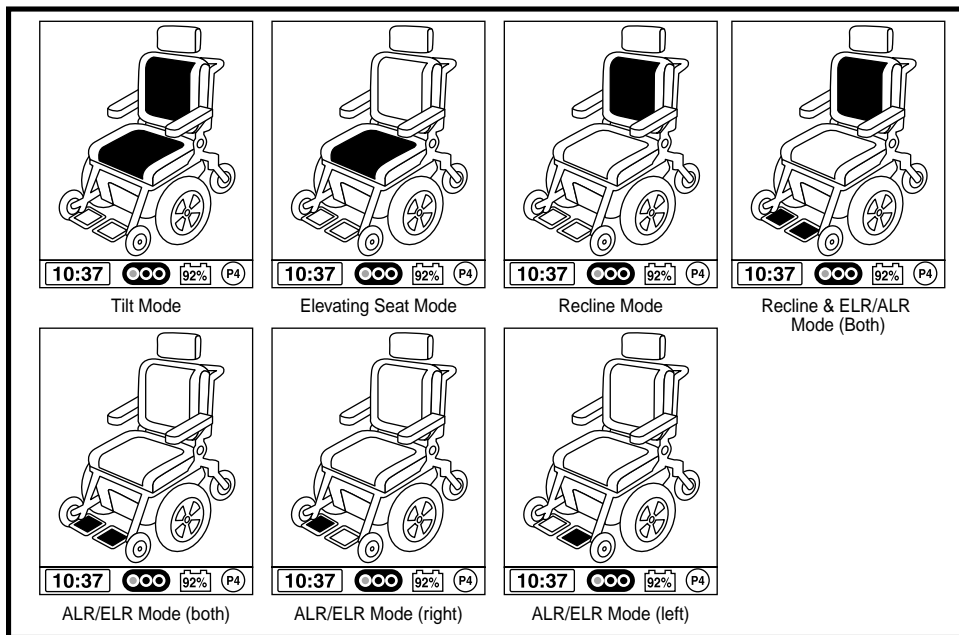

Figure 7. Actuator Selection
3. Push the joystick to the right to cycle through the available actuators until the desired actuators are illuminated on the actuator indicator. See figure 7.